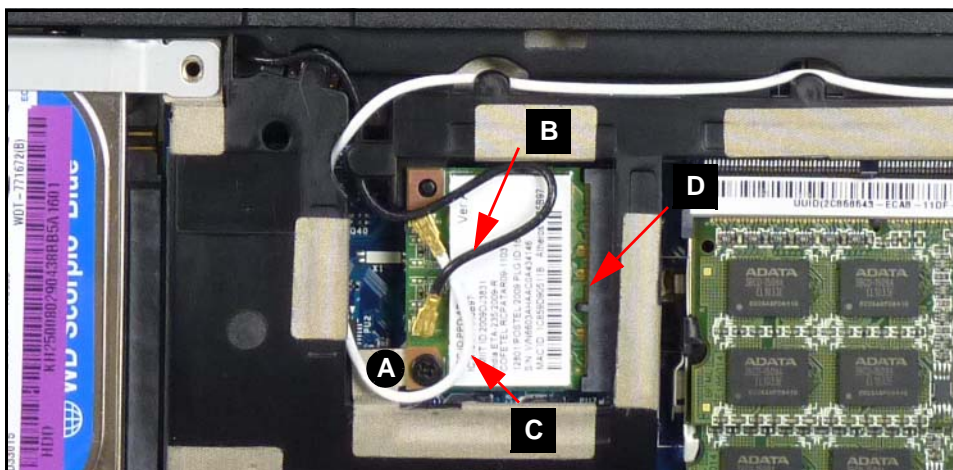

Figure 3-17. WLAN Module
2. Disconnect main (B) and auxiliary (C) antenna cables from module (Figure 3-17).
1. Connect module to mainboard connector (D) (Figure 3-17).
2. Install and secure screw (A) to mainboard.
3. Install main (B) and auxiliary (C) antenna cables on WLAN module connectors.